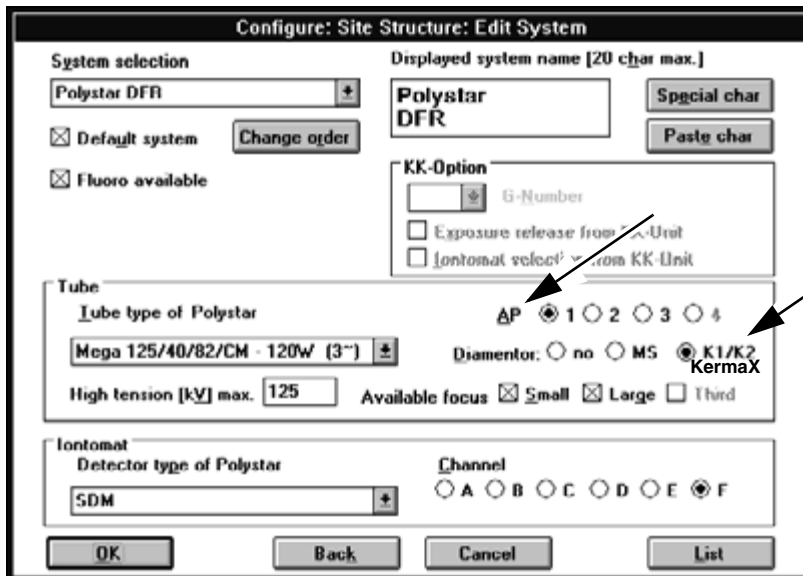

Fig. 6:
- Configure the KermaX dose area product test instrument (corresponds to the Diametor K1/K2) according to the connected workstation (arrow/Fig. 6 / p. 10).